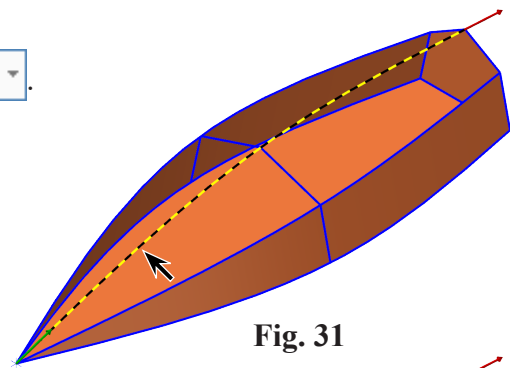

Fig. 31
Step 2. Select Chain  (C) in Chaining dialog box.
Step 3. Click “keel” spline to select chain 1, **Fig. 31**.